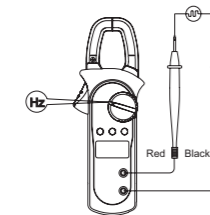

Figure 7
**E. Measuring Frequency** (See Figure 7)